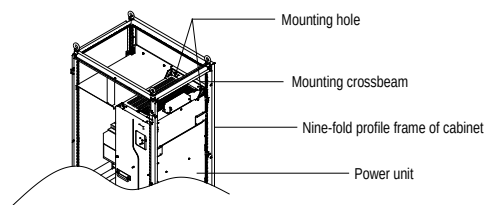

Figure 4-12 3D view of cabinet for VFDs in T11-T12 frames
- B. When mounting a VFD in frame T11–T13 into a nine-fold profile cabinet with the depth of 600mm, you must bend the mounting crossbeam inwards (shown in Figure 4-12) to make use of the space of vertical post, which is not necessary for the mounting into a standard cabinet with the depth of 800mm or greater.